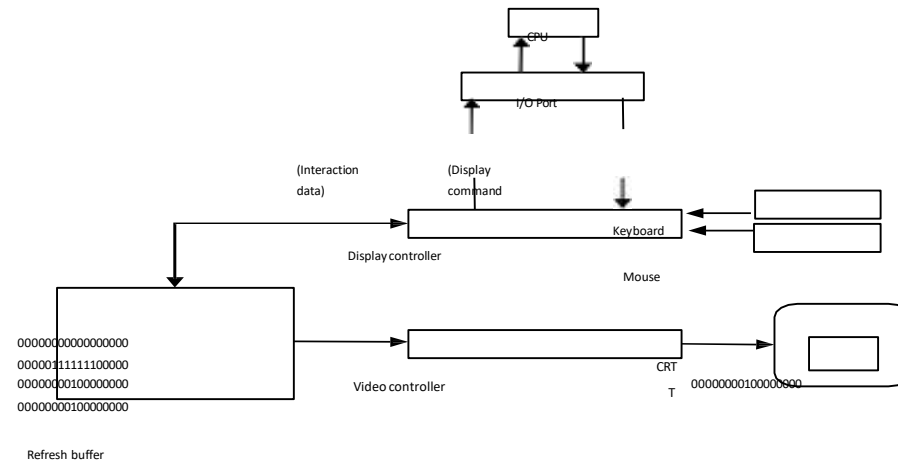

Fig. 1.3: - Architecture of a raster display.
- Fig. 1.3 shows the architecture of Raster display. It consists of display controller, CPU, video controller, refresh buffer, keyboard, mouse and CRT.